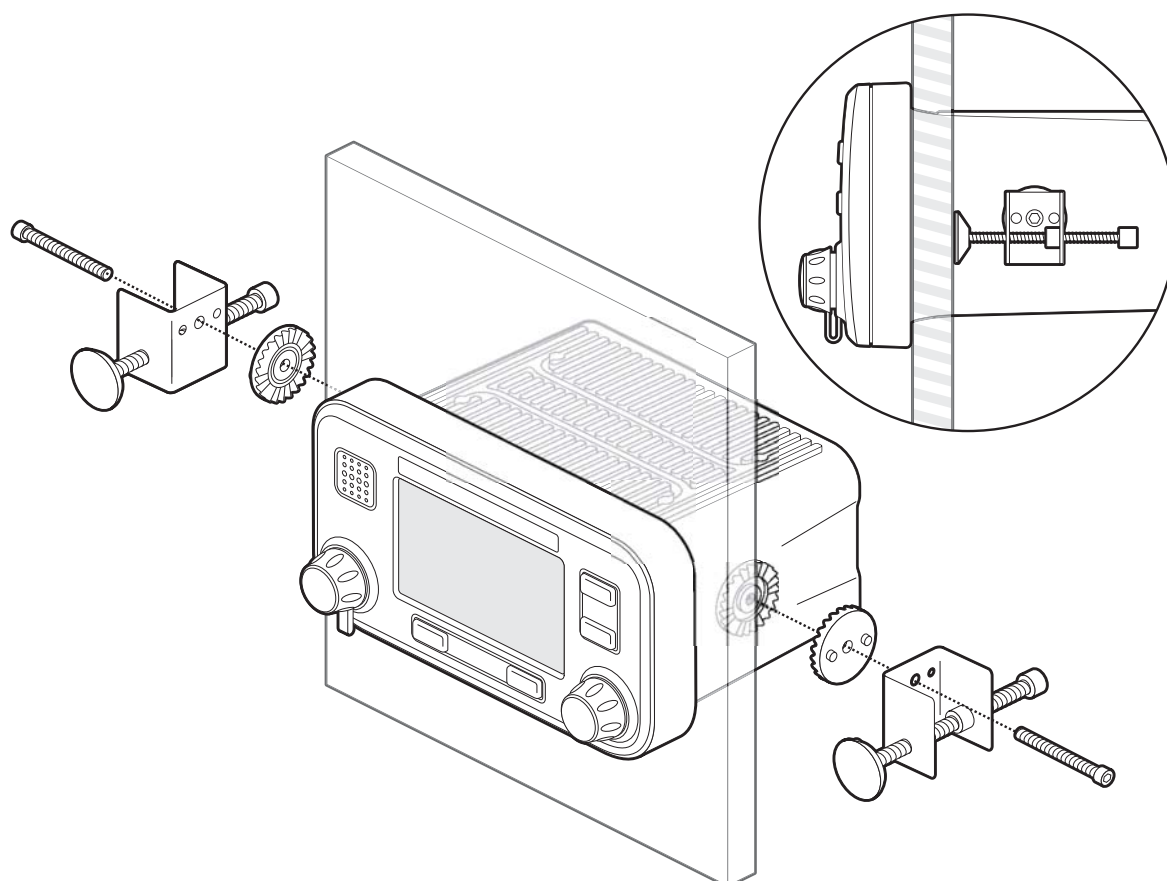

Figure 35 Panel mounting the AIS transceiver
- The transceiver is supplied with panel mount clamps for flush mounting through an instrument panel. Please refer to Figure 35 for guidance.